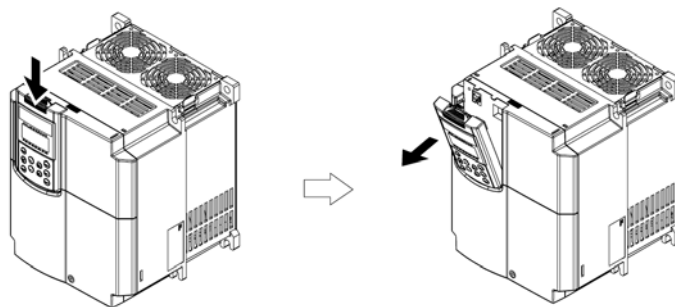
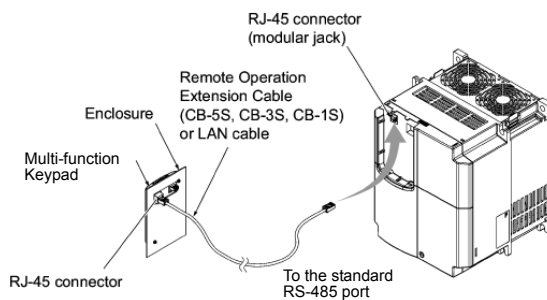

Figure 2.32 Removing a Keypad
Figure 2.34 Connecting Multi-function Keypad to the Inverter with Remote Operation Extension Cable or an off-the-shelf LAN Cable
(Note 2) When mounting on an enclosure wall, use the screws fitted to the thickness of the wall. (Refer to Figure 2.34.)
- ① Pull the keypad toward you while holding down the hook (pointed to by the arrow in Figure 2.32)
- ④ Remove the standard keypad mounted on the inverter (see Figure 2.32) and, using a Remote Operation Extension Cable or a LAN cable, interconnect the Multi-function Keypad and the Inverter (insert one end of the cable into the RS-485 port with RJ-45 connector on the Multi-function Keypad and the other end into that on the inverter) (See Figure 2.34.).